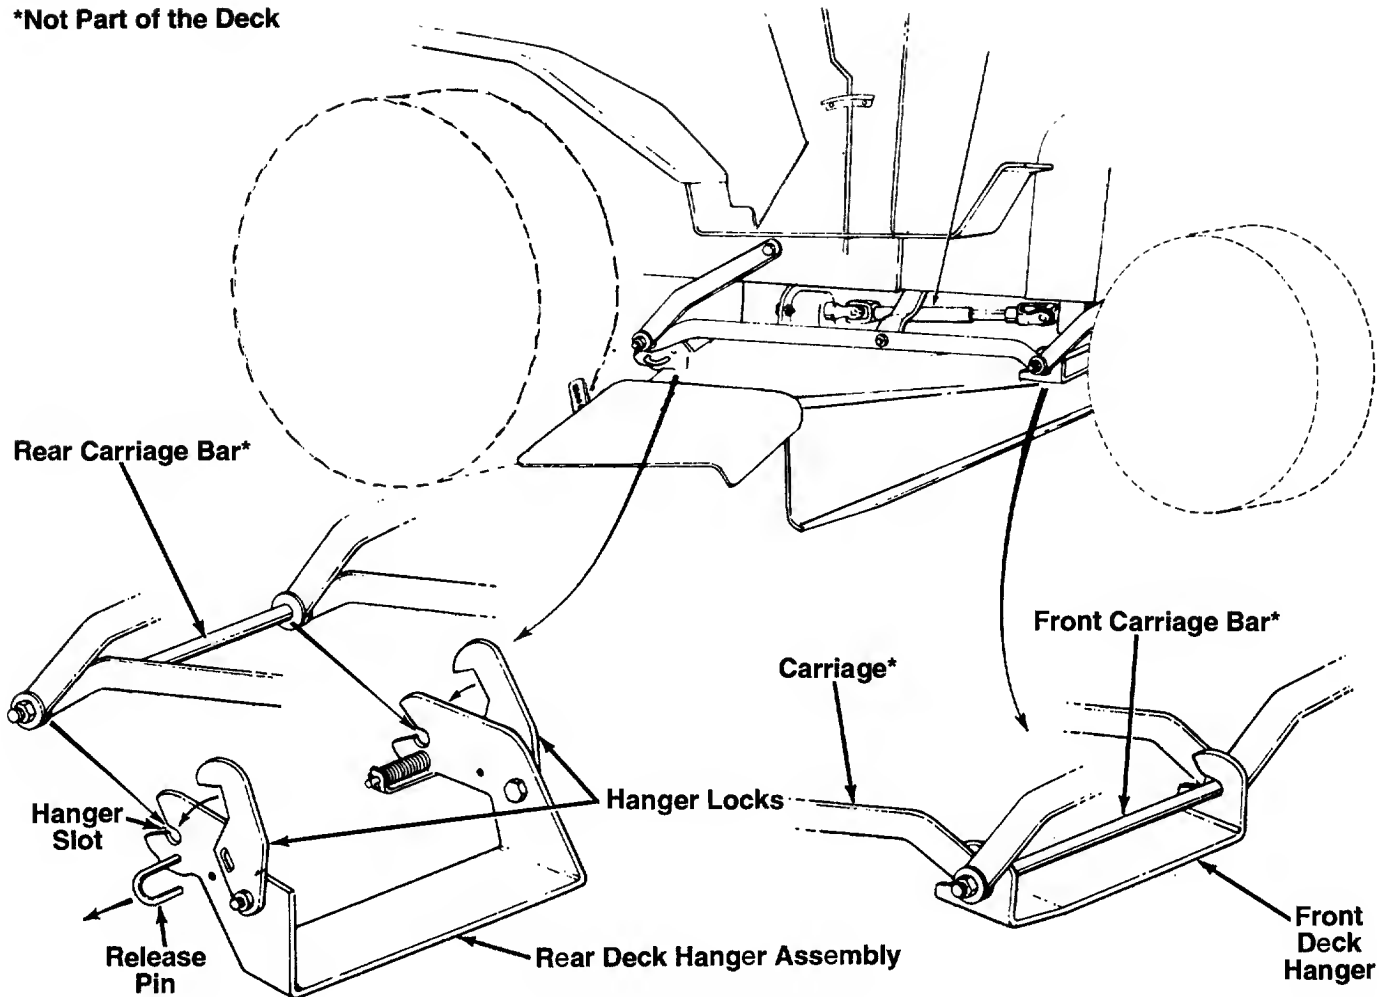

FIGURE 4.
6. Pull the release pins and raise the rear hanger locks. See figure 4.